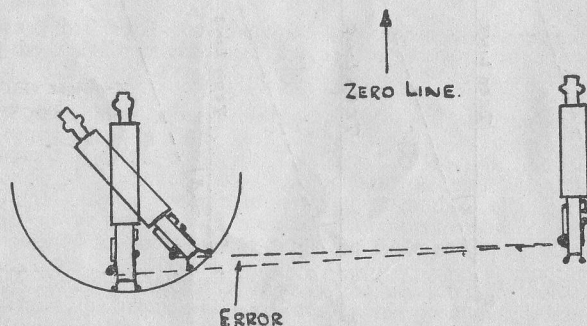

FIG 44
15. State that as the dial sight is not attached to the gun at the point at which the gun pivots, the dial sight moves in an arc when the gun is swung through an angle. To avoid inaccuracies resulting from this, the guns must be mounted approximately in the direction of the zero line. As the angle through which the guns will then swing to bring them parallel on their zero lines will be small in consequence, the movement of the dial sight will not affect accuracy. If, however, the guns had not been mounted in the approximate direction of the zero line, an appreciable error would appear in paralleling (see Fig 44 below).